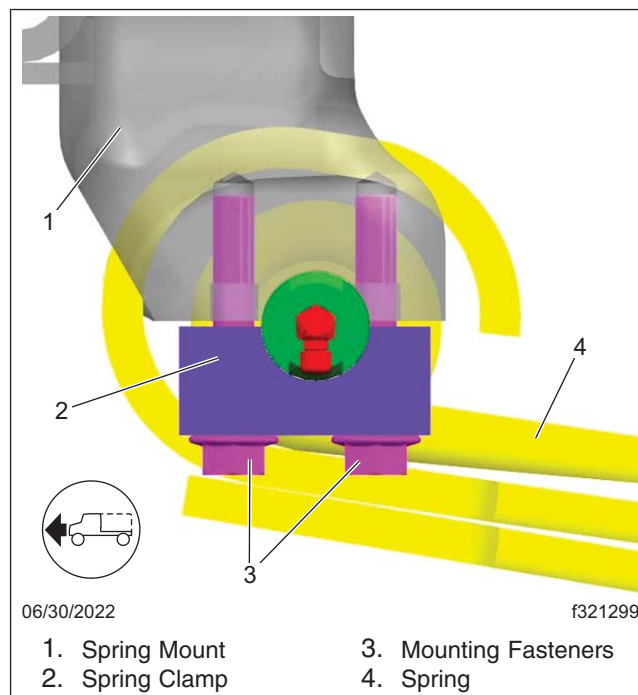

Fig. 1, Front Suspension Setup
3. On one side of the spring eye, remove the two fasteners that attach the spring clamp to the spring mount. Discard the fasteners. See Fig. 1.